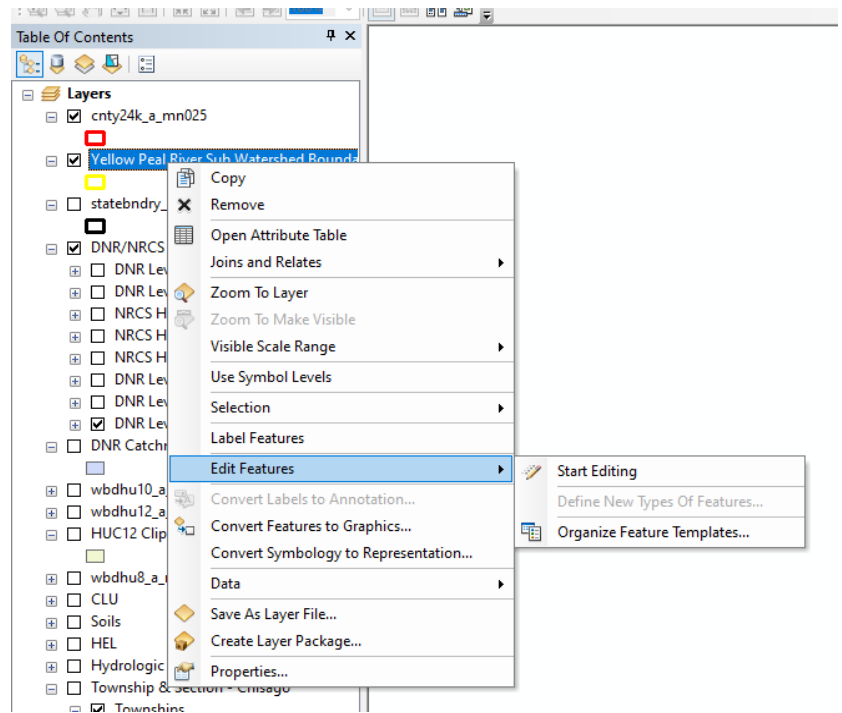

Figure 27. Start Editing New Shapefile
- Right click on the new shapefile and select Start Editing (Figure 27).